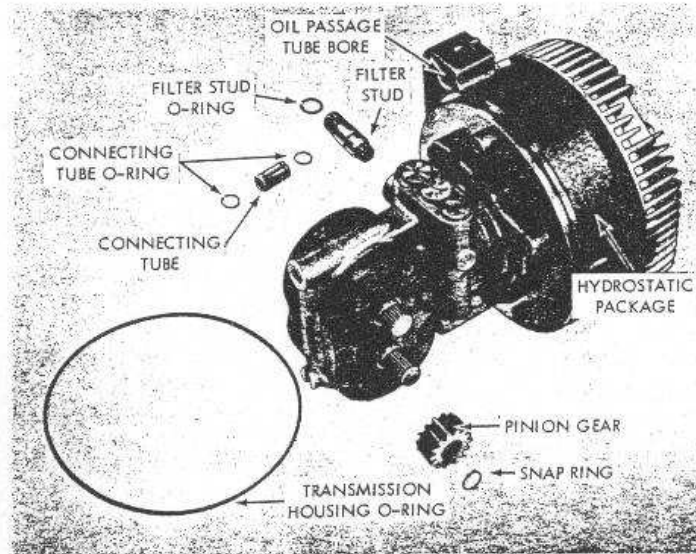

Figure 6
2. Before installing hydrostatic package, inspect O-ring (17) for cuts, nicks and etc. Carefully install O-ring (17) in groove in hydrostatic housing. Be sure O-ring is not twisted. If O-ring is twisted insert small, smooth, blunt rod between O-ring and groove and run around housing slowly. This will allow O-ring to untwist. Liberally coat O-ring with heavy oil or grease to prevent damage in installation.
3. Check oil passage tube (19) and O-rings (18) (must be free of cuts, nicks and etc). Install O-ring in grooves in oil passage tube (19) again checking to be sure O-rings are not twisted. Coat O-rings with heavy oil or grease to prevent damage in installation. Insert tube into hydrostatic bore shown in Figure 6.
4. Carefully insert hydrostatic package partially into main housing (51).